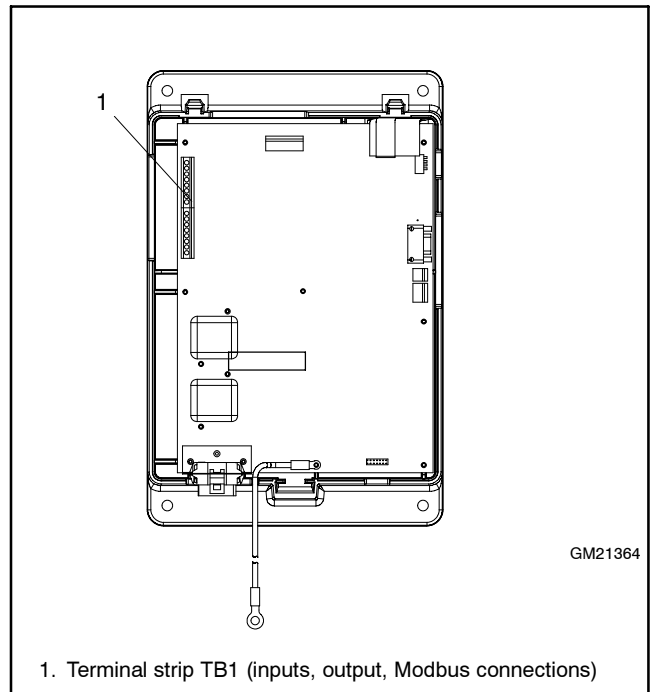

Figure 6-1 ATS Controller, Cover Removed
2. Open the controller housing and locate terminal strip TB1. See Figure 6-1.